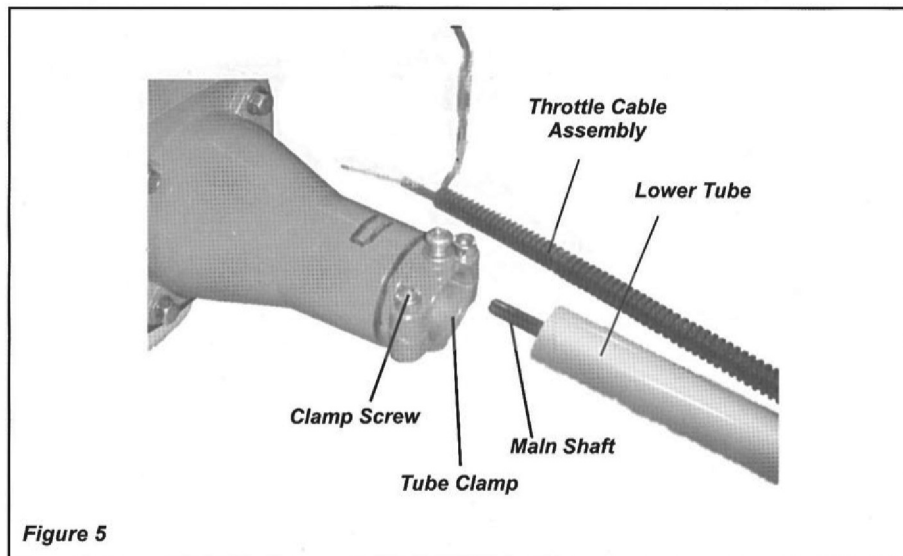

Figure 5
4. Push the lower tube towards the tube clamp and rotate it by hand to check that the mainshaft splines engage the powerhead, See Figure 5